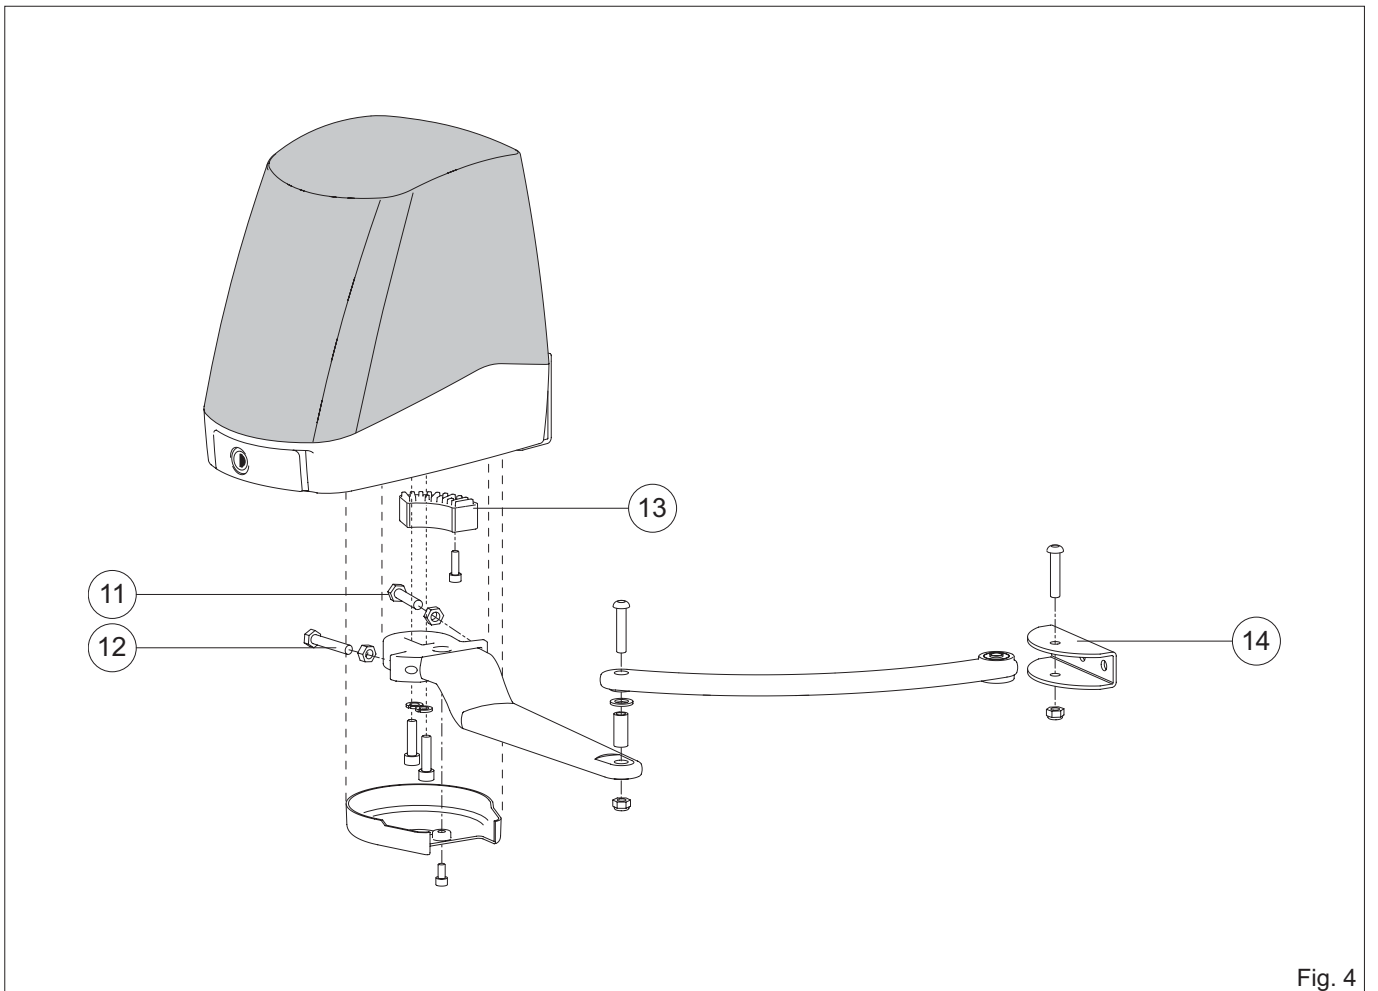

Fig. 4
- Fix the articulated arms and the arm retention bracket as indicated in fig. 4.
- If necessary adjust screws [11] and [12] on the stop [13] positioning the leaf in the closed and open position as indicated in fig. 4.